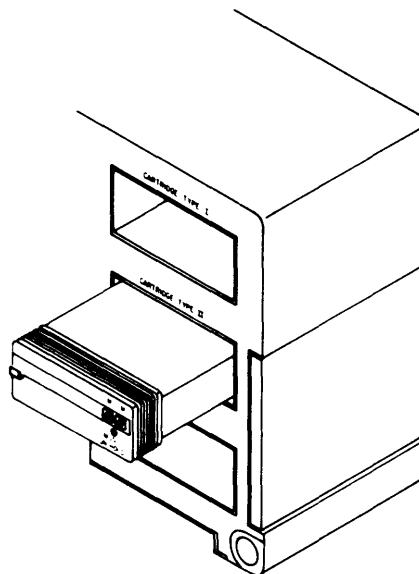

Figure 3
3. Slide the cartridge into the control unit cartridge slot marked Cartridge Type II as shown in Figure 3.